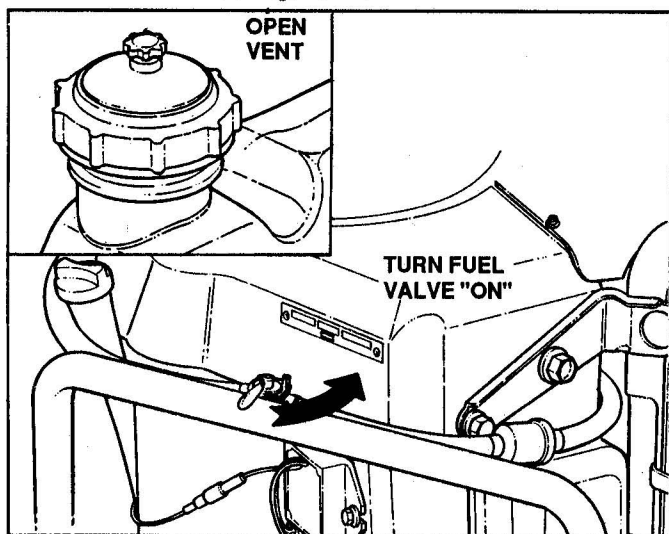

FIGURE 2.9
4. Open vent on fuel filler cap and turn fuel valve "ON" See Figure 2.9.